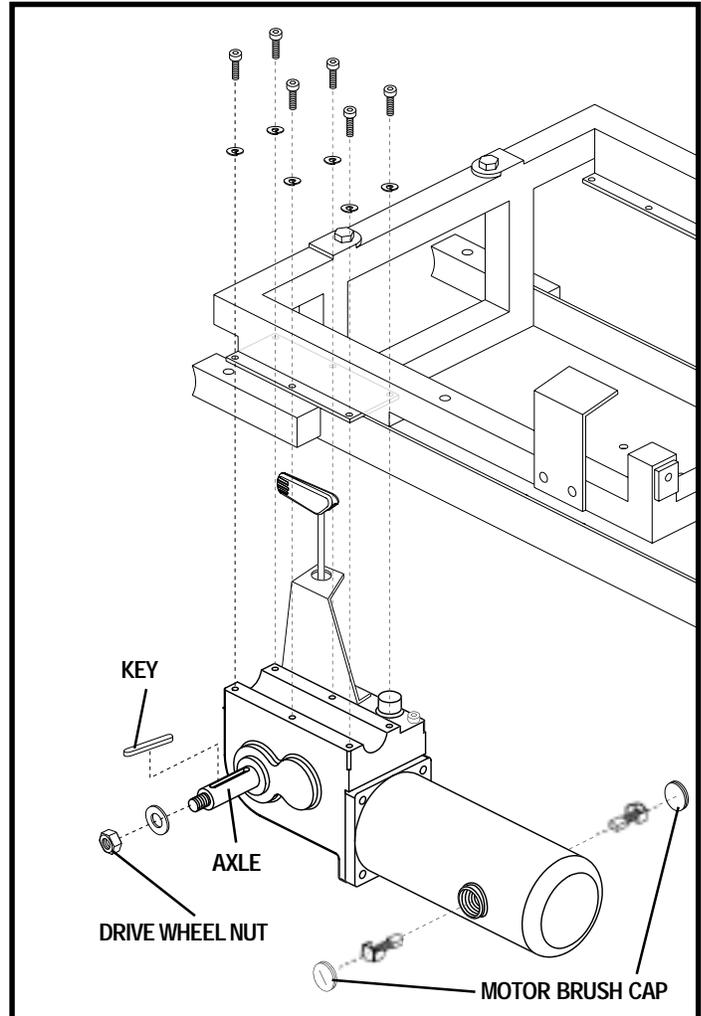

Figure 25. Motor
4. Remove the drive wheel nut from the wheel hub. See figure 25.
9. Slide the wheel back onto the axle. Make sure that the key is in the axle slot. See figure 25.
6. Remove the screws and washers that attach the motor to the frame. See figure 25.